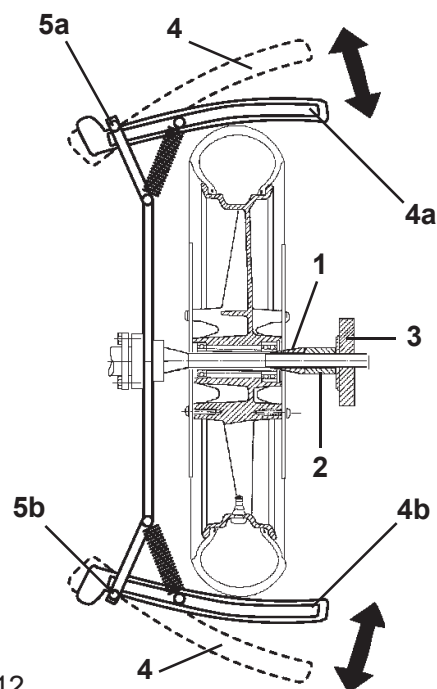

Figure 12
- Carry out a check run without wheel: Fully open out the two driver segments (**Fig. 12**, Item 4) until the pins engage; make sure they reach both the end position!
Refer to **Figure 12**.